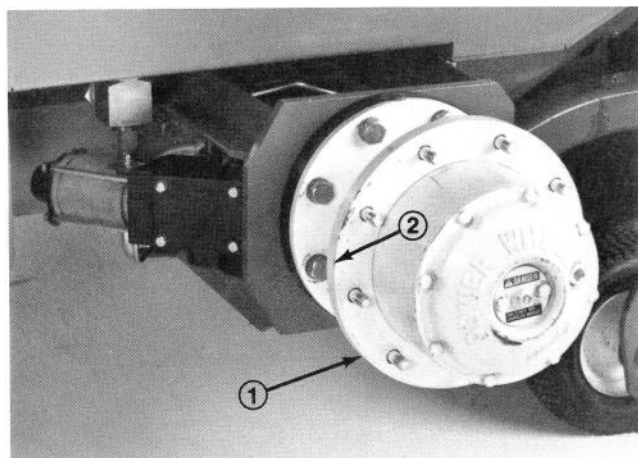

Figure 2
4. Remove eight (8) capscrews and lockwashers securing planetary wheel drive to brake housing (Fig. 2). Pull wheel drive out approximately 1/2 in. and allow oil to drain out.